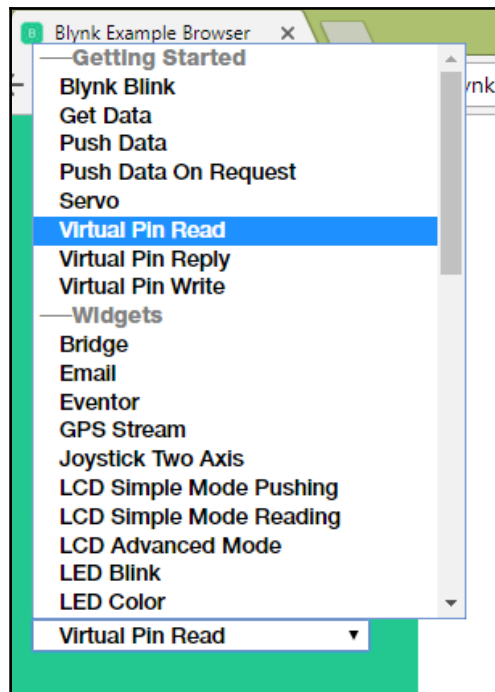

Figure 2.31: Selecting an example sketch
4. Choose **Virtual Pin Read** from the **Example** drop-down list (Figure 2.31):